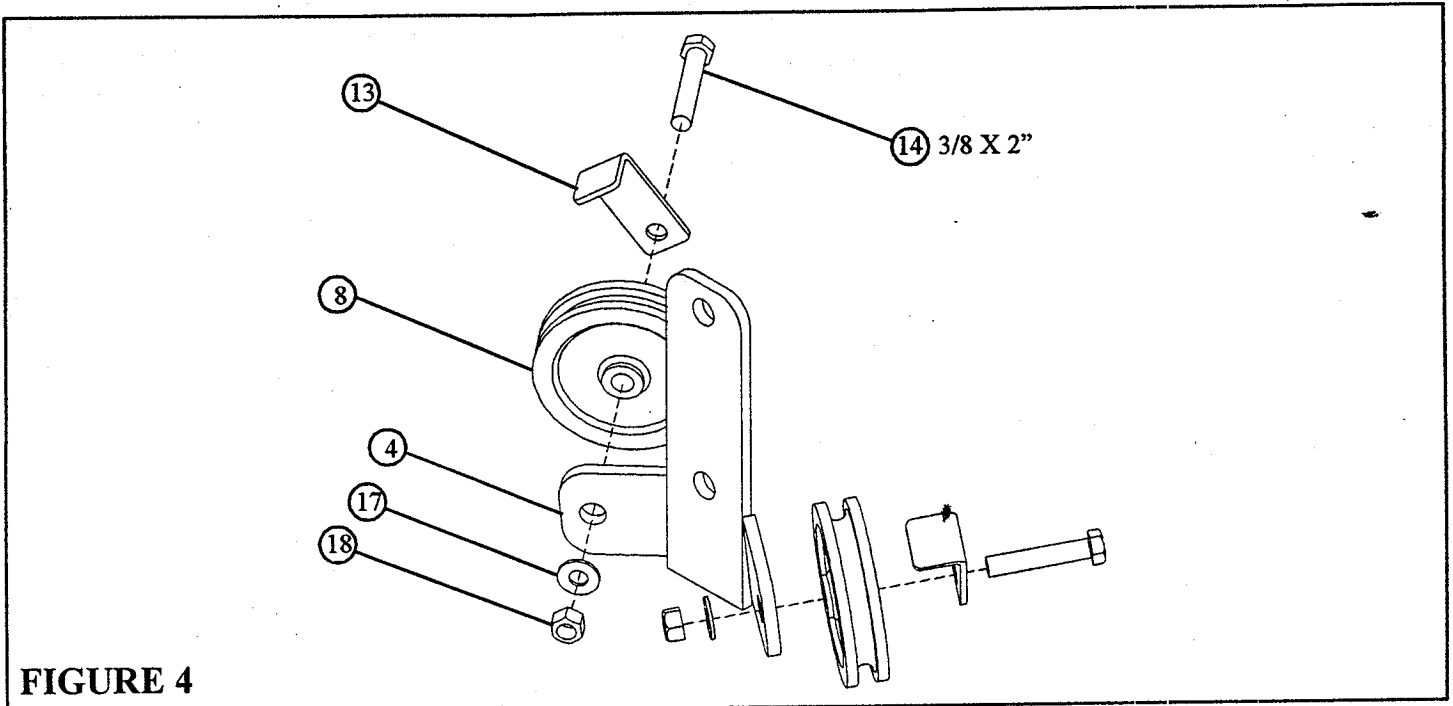

FIGURE 4
- **LOOSELY** assemble two 3-1/2" PULLEYS (8) and two CABLE RETAINING CLIPS (13) to the CENTER PULLEY BRACKET (4) using two 3/8 X 2" BOLTS (14), two 3/8" WASHERS (17), and two 3/8" LOCKNUTS (18). See FIGURE 4.